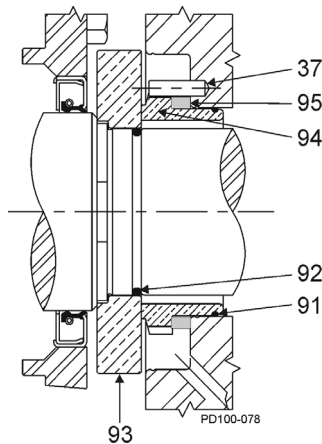
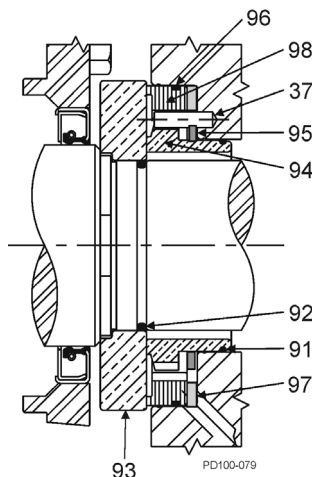
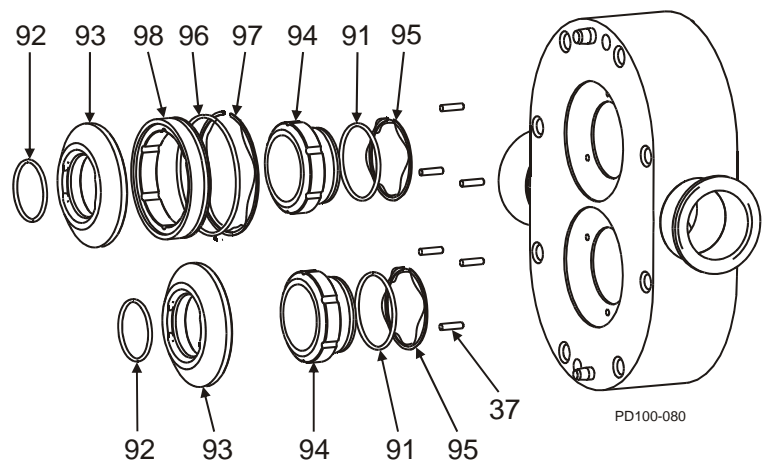

Figure 77 - Single Mechanical Seal
Figure 78 - Double Mechanical Seal
Figure 79 - Single (Bottom) and Double (Top) Mechanical Seal
Table 8: Callout table for Figure 77, Figure 78, and Figure 79
1. Lubricate the shaft o-ring (Figure 77, item 92) with a lubrication compound compatible with the o-ring material and process fluid(s). Place the o-ring on the shaft.
2. Install the rotating seal seat (item 93) on the shaft. Align the drive flats on the seat with the drive flats on the shaft.
4. Install the inner wave spring (item 95) onto the inner seal (item 94).
5. Lubricate the inner seal o-ring (item 91) with a lubrication compound compatible with the o-ring material and process fluid(s). Install the inner seal o-ring into the groove of the inner seal.
7. If a double mechanical seal is used, install the outer wave spring (Figure 78, item 97) in the body and the outer o-ring (item 96) in the outer seal groove (item 98). Place the outer seal in the pump body around the inner seal, aligning the notches in the outer seal with the stop pins in the body.